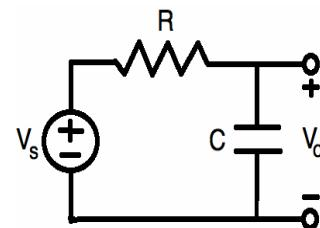

Figure 3A: Simple R-C Circuit
When you connect a capacitor to a battery, it charges up almost instantly. However, there many times when we want to control the charge and discharge rate of a capacitor. For example, electric vehicles use a pre-charge circuit that slowly lets voltage build up on the motor before the driver accelerates so it doesn't burn the motor and other components. Figure 3A shows such a circuit. There is a resistor that is in series with the capacitor. The resistor is used to slow down the flow of electrons from the battery as they enter the capacitor. This slows down the charging time of the capacitor. This type of circuit is also used in electronic filters as we will see shortly.
We have seen how resistors are used to control current flow. By adding the resistor in series with my capacitor (C) in Figure 3A, it slows down the flow of the current and creates a delay so it will take a bit of time to charge the capacitor.
If I removed the battery in Figure 3A and replaced it with a switch, I could discharge the capacitor by closing the switch and allowing current to dissipate through the resistor. It would take the same amount of time to discharge the capacitor through my resistor as it took to charge it in the first place. So, after 11 seconds, the capacitor would be out of energy.